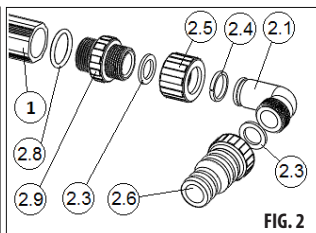
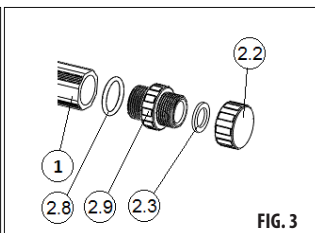

FIG. 2
FIG. 3
- 1) Assemble the panel. Screw the transition piece (2.9) with silicon O-rings (2.8) onto the solar panel pipes. WE RECOMMEND TO APPLY A THIN LAYER OF THE SUPPLIED LUBRICANT ON THE FRONT SEALING SURFACE OF THE SOLAR PANEL PIPE (1), IT WILL PREVENT EVENTUAL LEAKAGES. Fit the hose pins (FIG. 2) and caps (FIG. 3) onto the transition pieces. One of the panel pipes has a plug in the middle, use the hose pins on this pipe, fit caps to the other pipe.